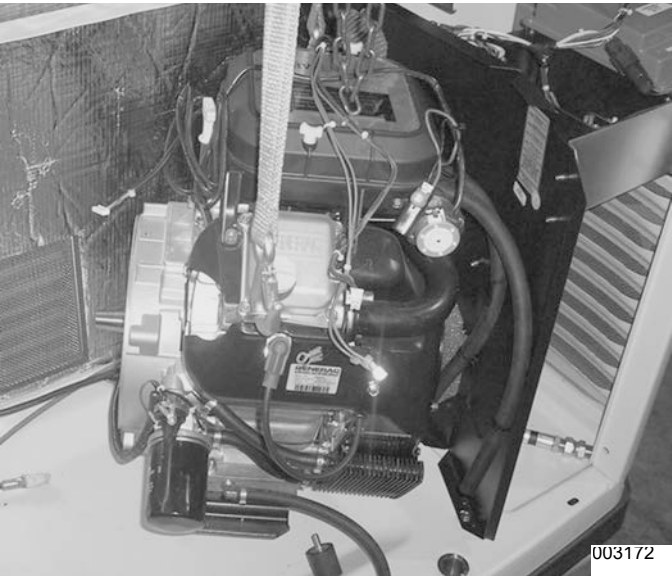

Figure 4-61.
31. See Figure 4-61. Using proper lifting equipment remove the engine.